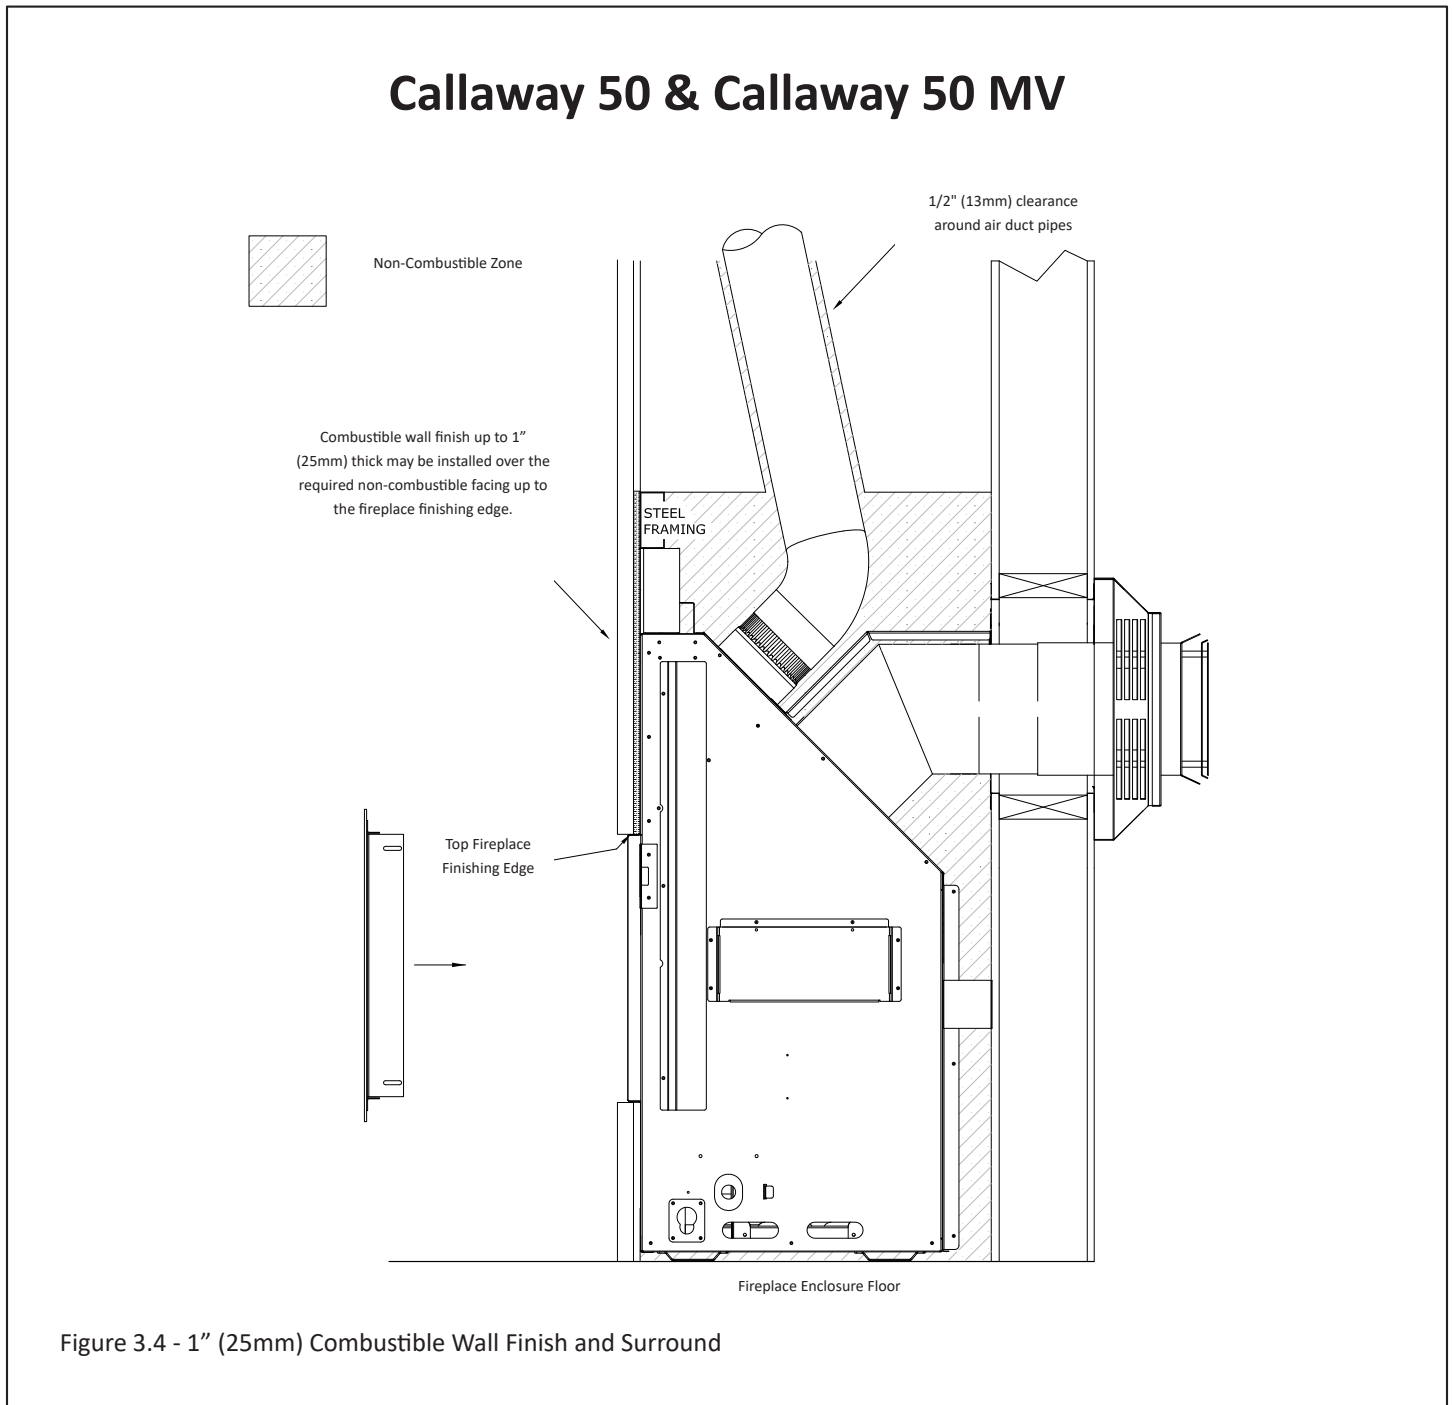

Figure 3.4 - 1" (25mm) Combustible Wall Finish and Surround
- Figure 3.4 shows installation of combustible wall finish up to 1" (25mm) thick for the Callaway 50 & Callaway 50 MV. This combustible material goes on top of any required non-combustible facing material as required in Figure 3.1.